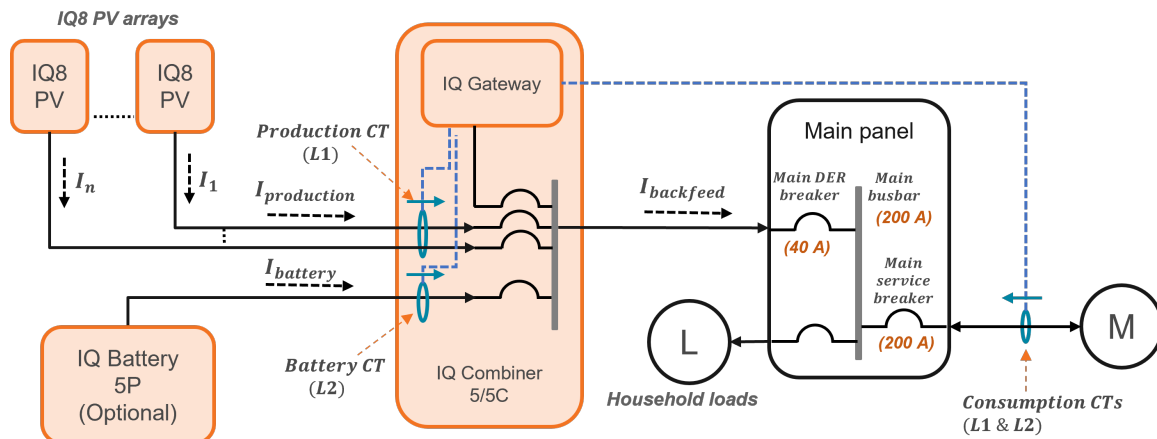

Figure 19: MPU avoidance in the grid-tied configuration
In Figure 19: MPU avoidance in the grid-tied configuration on page 31, both Production CT and Battery CT are monitored, and the battery discharge is controlled first, followed by the PV production current to limit $I_{backfeed}$ entering the main DER breaker in the main panel. The main DER breaker must be sized to the PCS limit as per NEC 2020 705.13 (C).
For example, as seen in Figure 19: MPU avoidance in the grid-tied configuration on page 31, if the main load panel busbar size is 200 A and the grid-side main service breaker size is also 200 A, the maximum continuous current backfeed allowable from the IQ Combiner to the main panel, $I_{production}$, is limited to:
For example, in Figure 19: MPU avoidance in the grid-tied configuration on page 31, the I_{backfeed} allowed is 32 A. If $I_{\text{production}}$ is 0 A, the maximum allowed I_{battery} is 32 A. However, consider a scenario in Figure 19: MPU avoidance in the grid-tied configuration on page 31 where IQ Battery oversubscription is enabled with the Battery breaker on IQ Combiner as 20 A. I_{backfeed} allowed remains 32 A, but if $I_{\text{production}}$ is 0 A, the maximum allowed I_{battery} is 16 A.